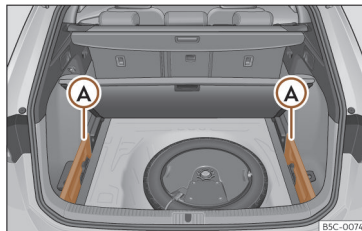

Fig. 185 In the boot: space to store the retractable shelf.
- Remove the left and right covers >>> Fig. 185 ①.